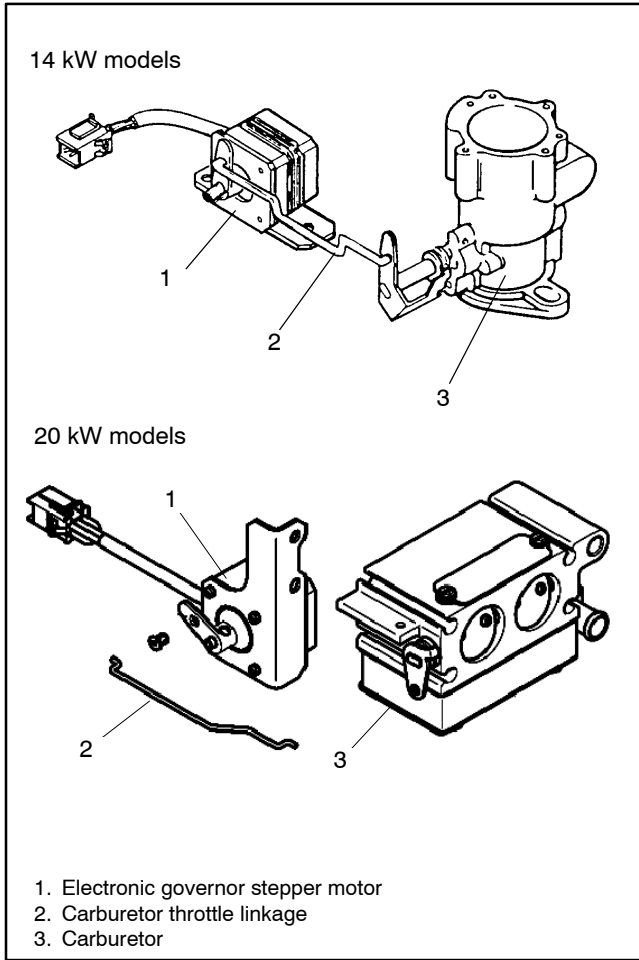

Figure 6-15 Stepper Motor and Carburetor
3. Hold the throttle linkage steady while the engine is running. See Figure 6-15. If the engine runs at a steady speed with no hunting or surging when the throttle is held steady, then the hunting/surging problems during operation are probably caused by the governor. Proceed to Section 6.8.4.
1. Verify that the carburetor throttle linkage is connected to the stepper motor as shown in Figure 6-15.